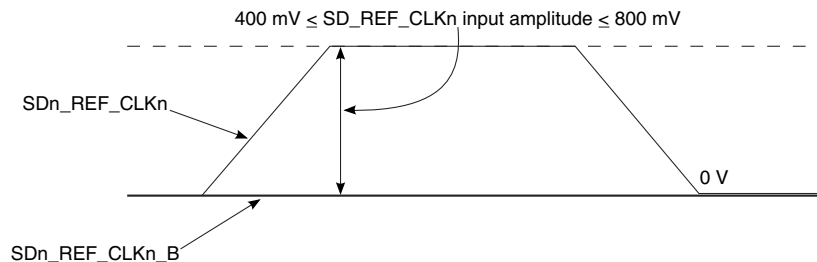

Figure 35. Single-ended reference clock input DC requirements
- The SDn_REF_CLKn input average voltage must be between 200 and 400 mV. Figure 35 shows the SerDes reference clock input requirement for single-ended signaling mode.